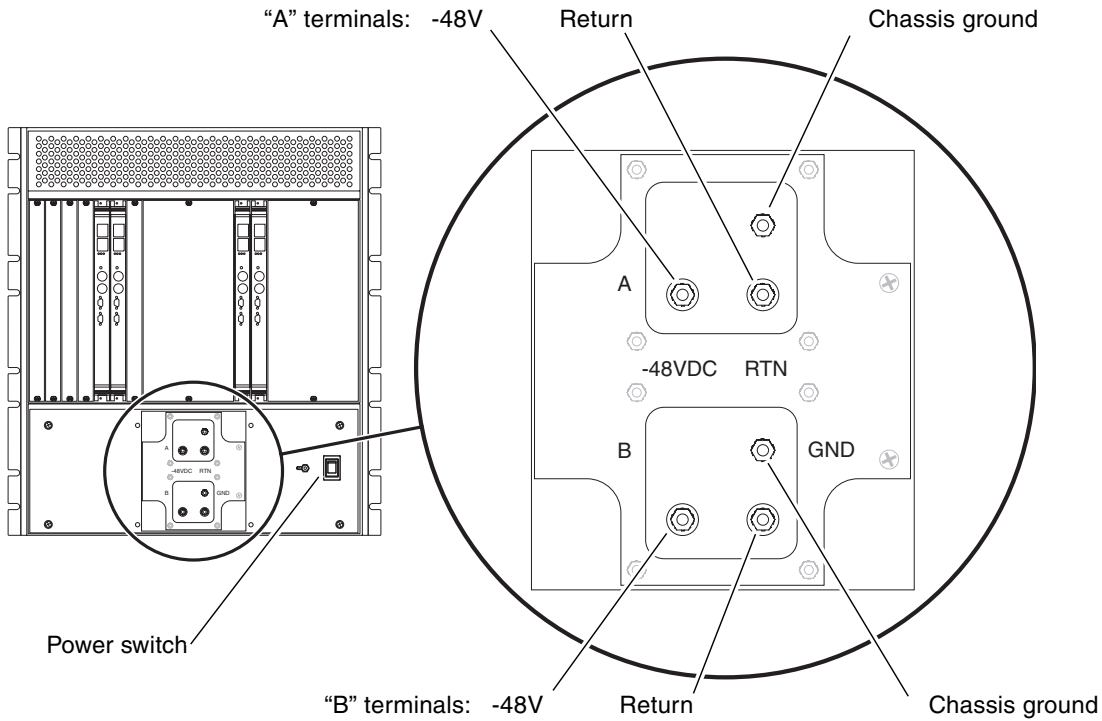

FIGURE 5-1 Netra CT 820 Server (Rear)
2. **Locate the power switch at the rear of the server and press it to the On (I) position (FIGURE 5-1).**
2. Locate the power switch at the rear of the Netra CT 820 server and press it to the Off (O) position (FIGURE 5-1).
3. If you want to completely power off the Netra CT 820 server, remove the service panel cover from the DC terminal block and disconnect the DC supply terminals from the terminal block (FIGURE 5-1).